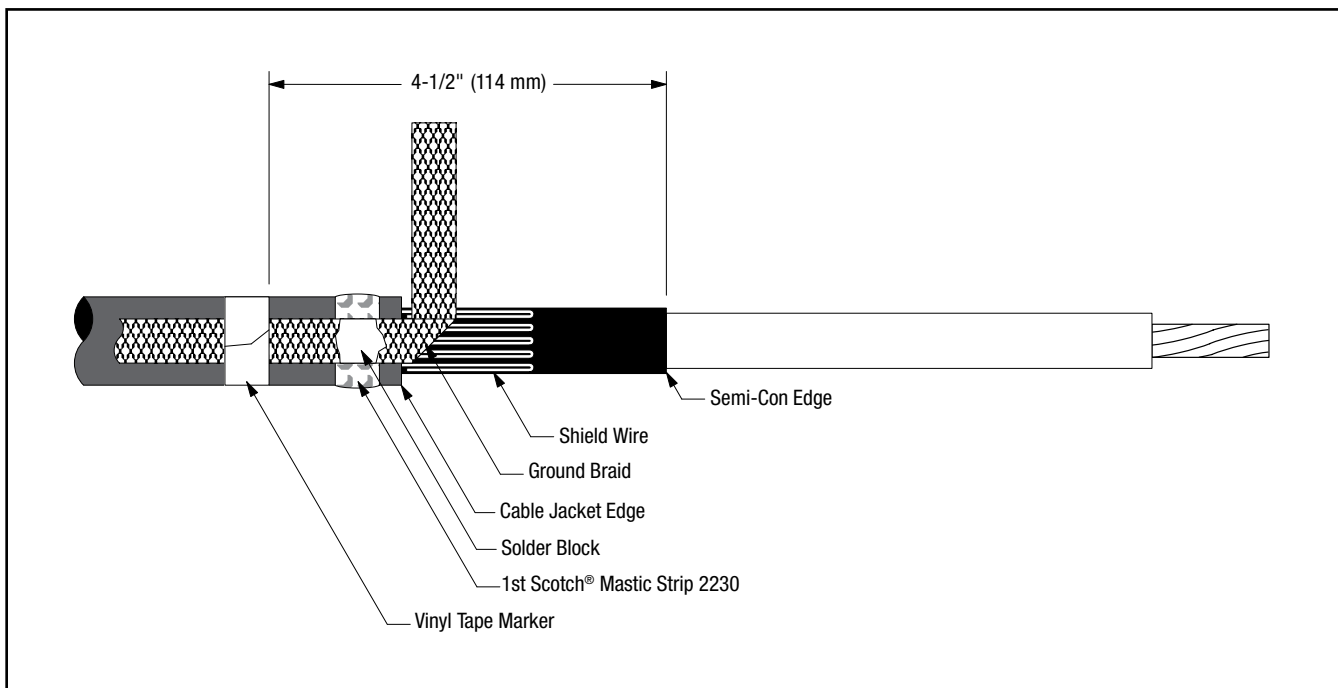

Figure 11
- 8.2 Position pre-formed ground braid with short tail over wire shield directly adjacent to cable jacket cut edge. Position long tail of ground braid, extending over cable jacket with solder block over mastic strip (Figure 11). Secure ground braid to cable jacket 4-1/2" (114 mm) from cable semi-con edge using vinyl tape (Figure 11).